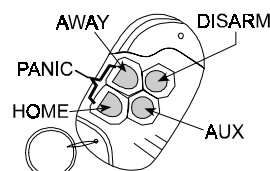

Figure 21. MCT-234
**A. MCT-234** (Fig 21): ‘Keyfob’ transmitter - one unit is supplied with the PowerMax. You can program the AUX (auxiliary) button to perform various tasks, in accordance with the user’s needs.